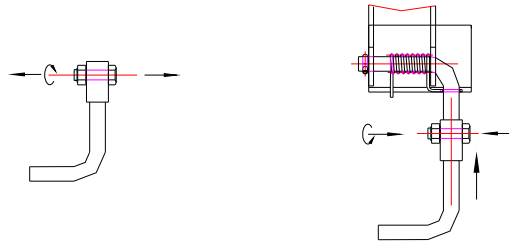

Figure 1
1. Attach the pedal bar (Part No.4-65) to the pump unit (see Figure 1);